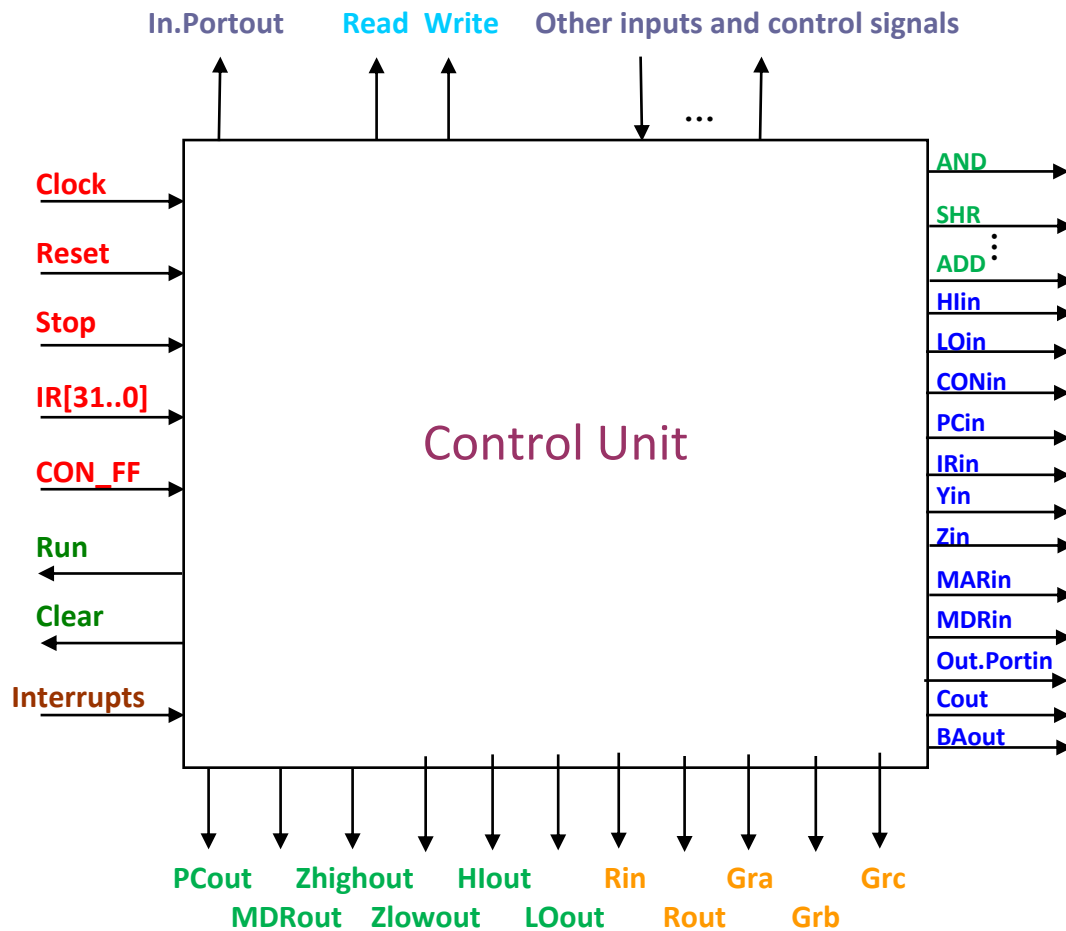

Figure 5: Block diagram of the Control Unit
The ALU has two inputs, A and B, and an output, C. Because the bus can support only one transaction at a time, one of the inputs (A input) to the ALU needs to be stored in the 32-bit temporary register, Y. As discussed in the CPU Specification document, the ALU supports the addition, subtraction, multiplication, division, shift right, shift right arithmetic, shift left, rotate right, rotate left, logical AND, Logical OR, Negate, and NOT operations. The control signals to the ALU (generated by the Control Unit in Phase 3, as shown in Figure 5) will enforce the required operation. These control signals include *ADD, SUB, MUL, DIV, SHR, SHRA, SHL, ROR, ROL, AND, OR, NEG, and NOT* control signals, among others. Note that in Phase 1 and Phase 2, you will simulate such control signals.
2.2 Control Unit: The Control unit is to be designed in Phase 3. However, a block diagram is provided in Figure 5 for a better understanding of the Datapath. The Control Unit is at the heart of the processor. It accepts as inputs those signals that are needed to operate the processor and provides as outputs all the control signals necessary to execute the instructions. The outputs from the Control Unit are the control signals that we use to generate **Control Sequences** for the instructions of the Mini SRC.